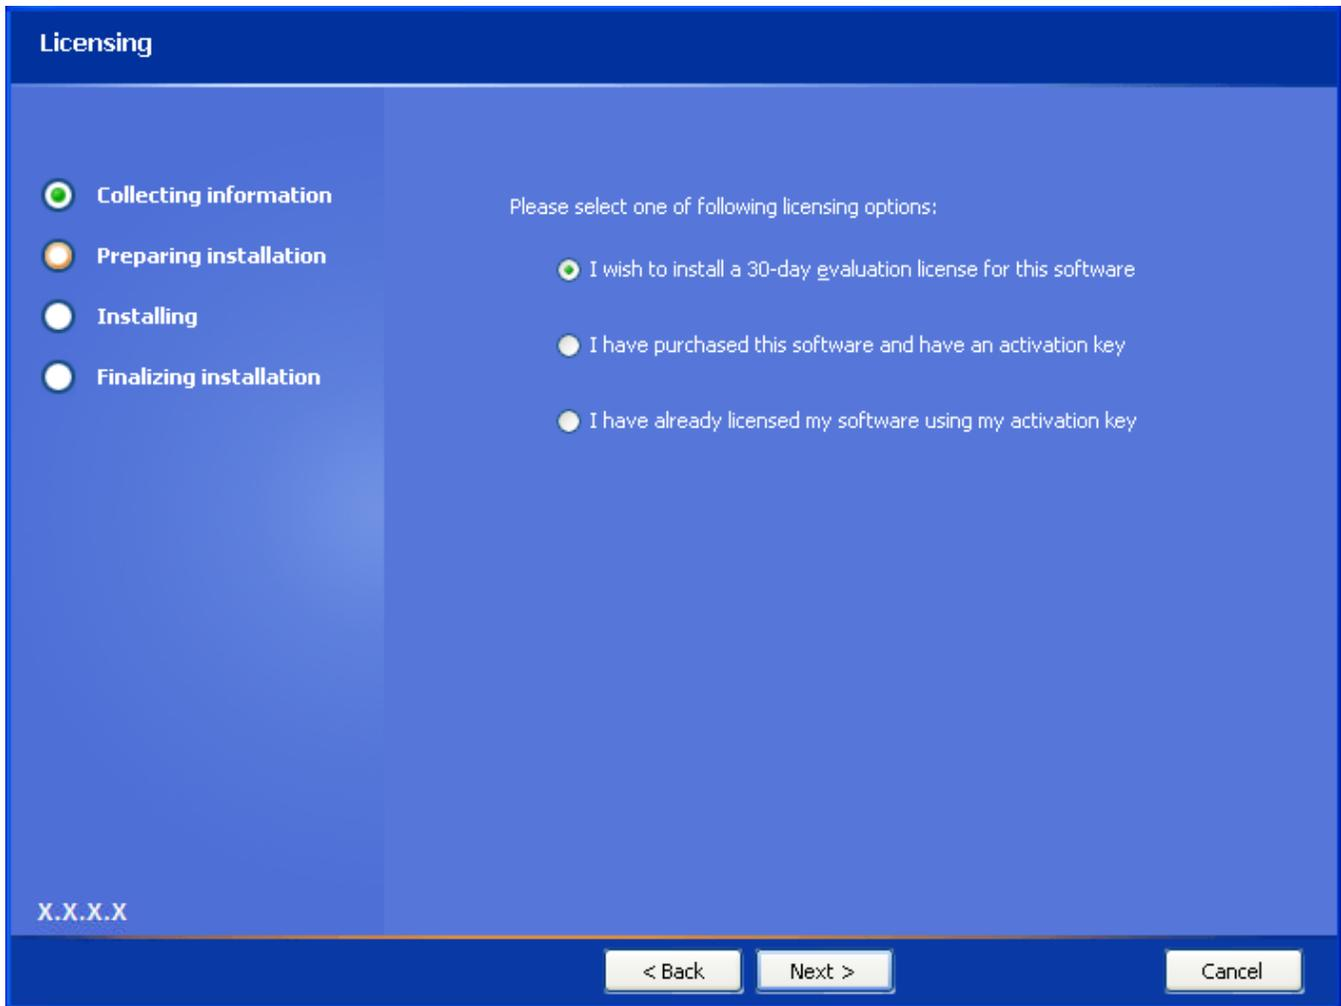

Figure 27 - Licensing Screen
13. Click on the **Next** button. The **Licensing** screen (Figure 27) appears.